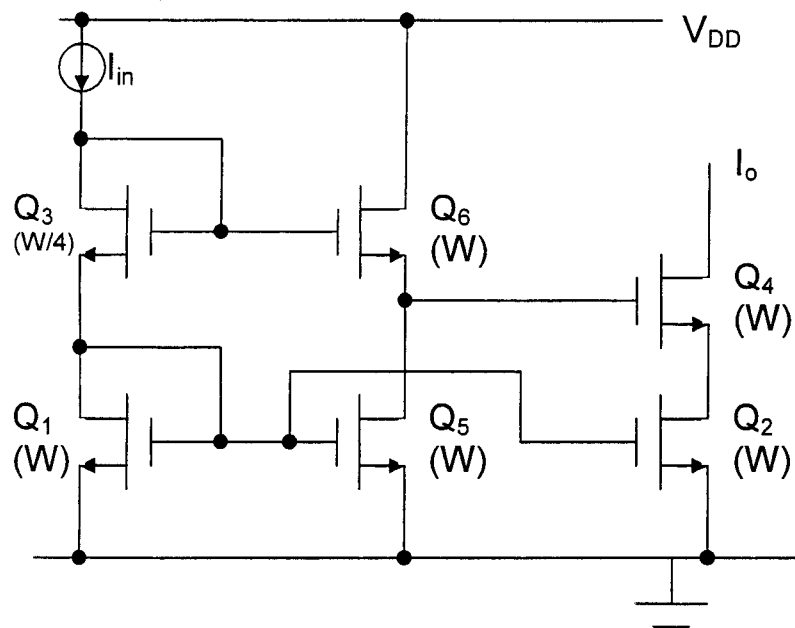

Figure 6.2
- (b) Give reasons why it is important for CMOS current mirrors to have a high output resistance and high output voltage swing. For the current mirror of Figure 6.2 derive this voltage swing in terms of device threshold voltage V_T , clearly stating any assumptions you make.